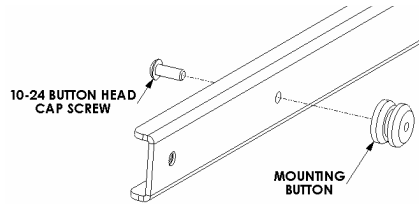
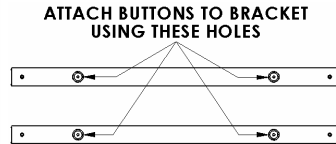

Figure 2
Figure 3
1. Using a 10-24 button head cap screw inserted from back side of *top* and *bottom* brackets, secure mounting button with chamfered hole of mounting button (larger surface) facing bracket, to brackets (4 places) (see Figure 2 & Figure 3).